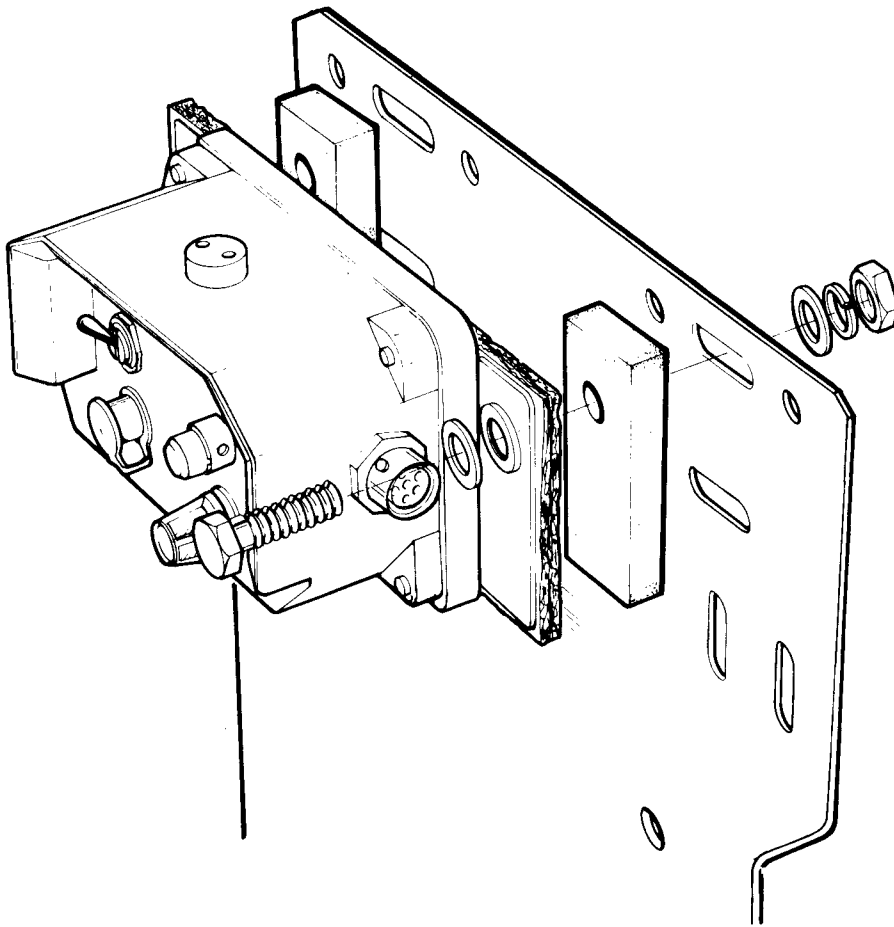

Fig. 8 Initiate box mounting
3. Bolt the initiate box to the plate, mounting as in fig. 8 using 2 off gaskets (5820-99-119-2019), 2 off M8 x 35 bolts, nuts and washers from the linen bag attached to the plate, mounting.